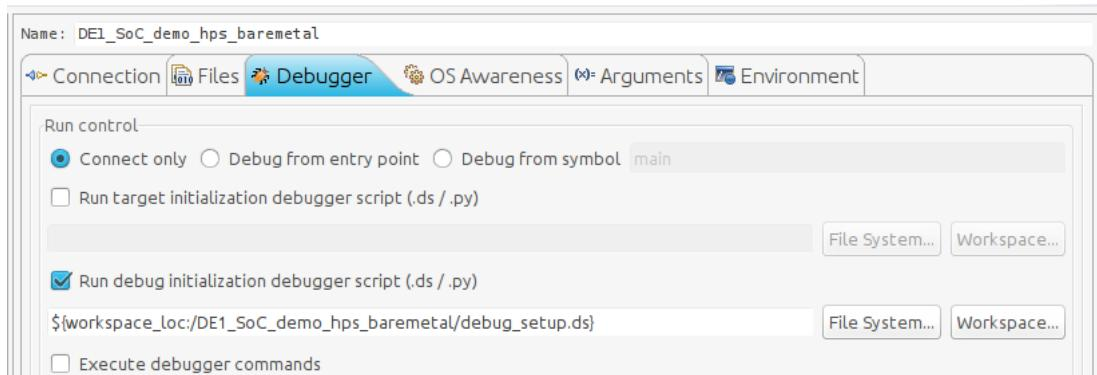

Figure 8-31. Debug Configuration “Debugger” Tab
- b. Enable the “Run **DEBUG** initialization debugger script (.ds / .py)” checkbox. Set the debug script to the one we defined for the project in 8.4.2.1.3.2. You should have something similar to Figure 8-31.